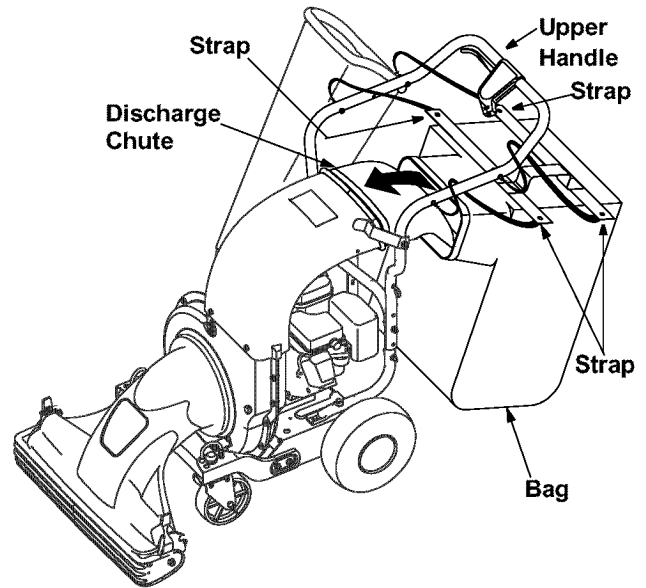

Figure 6
- Place bag under the upper handle assembly and slip the front opening on the bag over the discharge chute, making certain it is over the rim on the discharge chute. Follow direction of the arrows in Figure 6.
- Place the four straps on top of the bag over the upper handle, hooking them on the studs to secure in place. See Figure 6. Squeeze the clamp on the drawstring and pull the drawstring tight. Release the clamp.